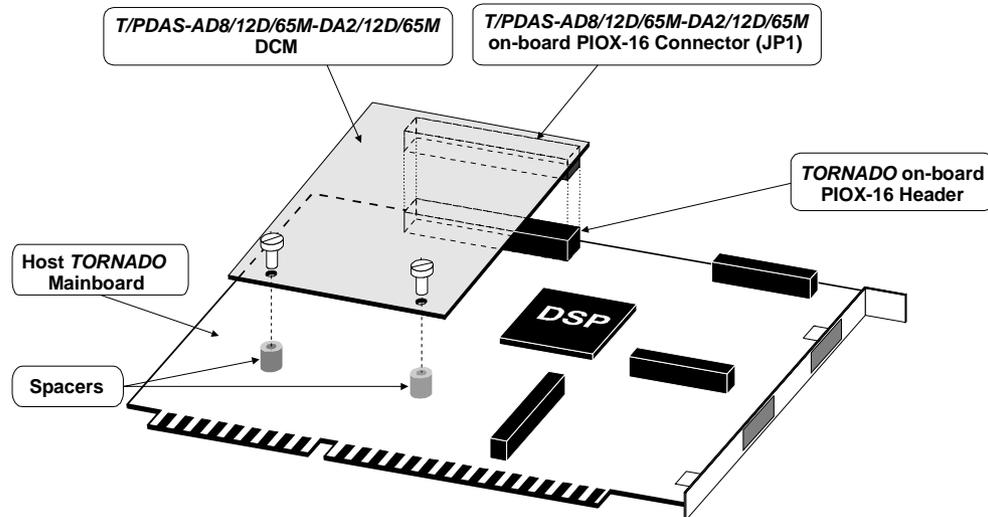
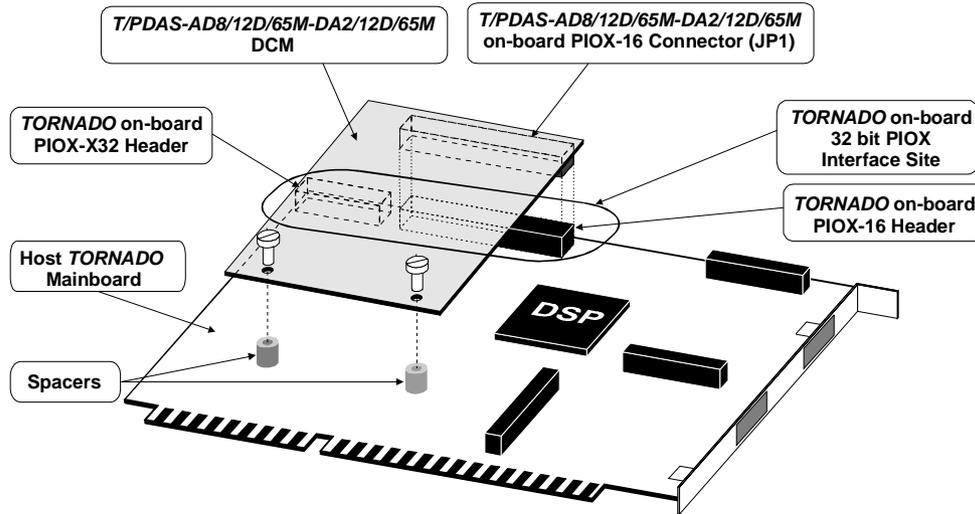

Fig. 3-1a. Installation of *T/PDAS-AD8/12D/65M-DA2/12D/65M* DCM into 16-bit PIOX-16 site of host *TORNADO* DSP system.
Fig. 3-1b. Installation of *T/PDAS-AD8/12D/65M-DA2/12D/65M* DCM into 32-bit PIOX site of host TORNADO DSP system.
4. Pick-up *T/PDAS-AD8/12D/65M-DA2/12D/65M* DCM from the shipment packaging and orient it parallel to *TORNADO* mainboard over PIOX-16 DCM area. Safely plug-in on-board JP1 host PIOX-16 connector of *T/PDAS-AD8/12D/65M-DA2/12D/65M* DCM into the corresponding 16-bit PIOX-16 site header of host *TORNADO* mainboard (fig.3-1a). In case host *TORNADO* mainboard provides on-board 32-bit PIOX interface site, then you have to plug *T/PDAS-AD8/12D/65M-DA2/12D/65M* DCM into the 16-bit PIOX-16 sub-connector of host PIOX interface site at host *TORNADO* mainboard (fig.3-1b).